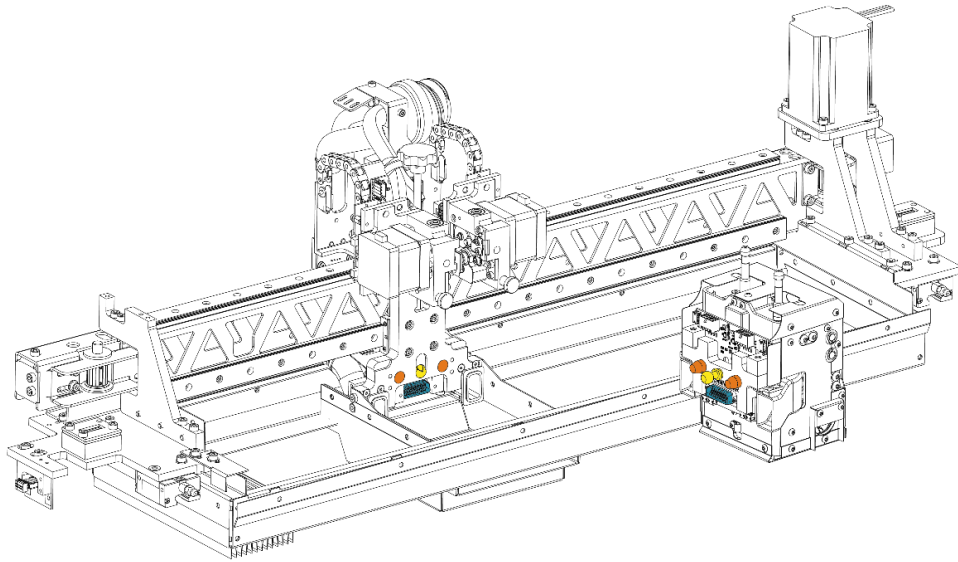
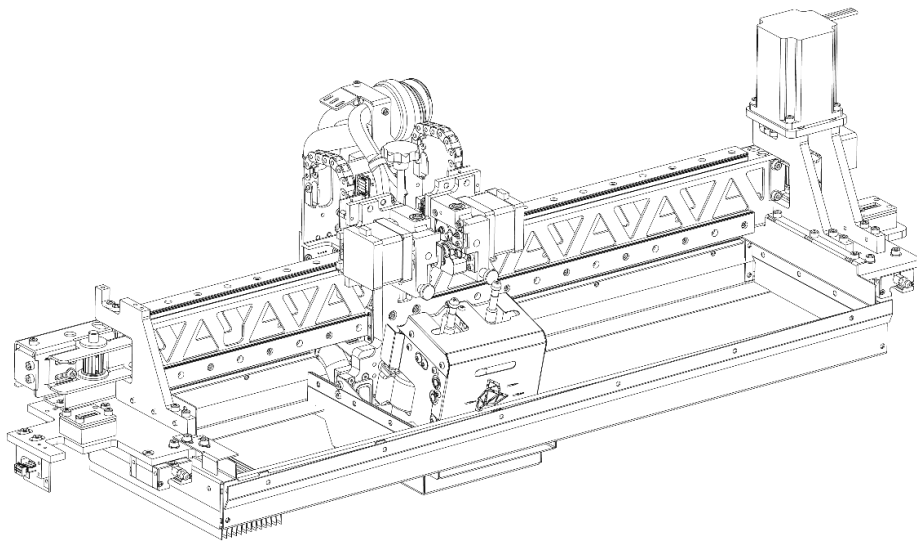
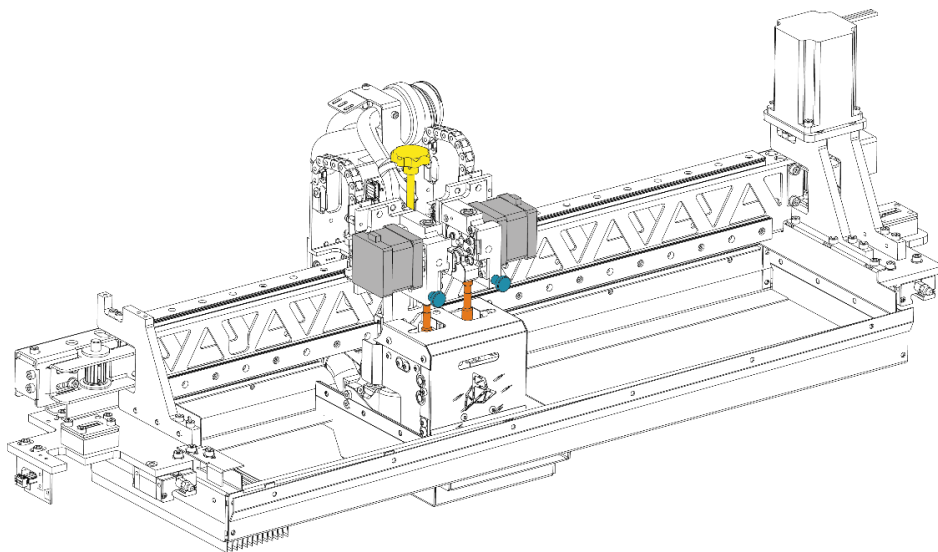
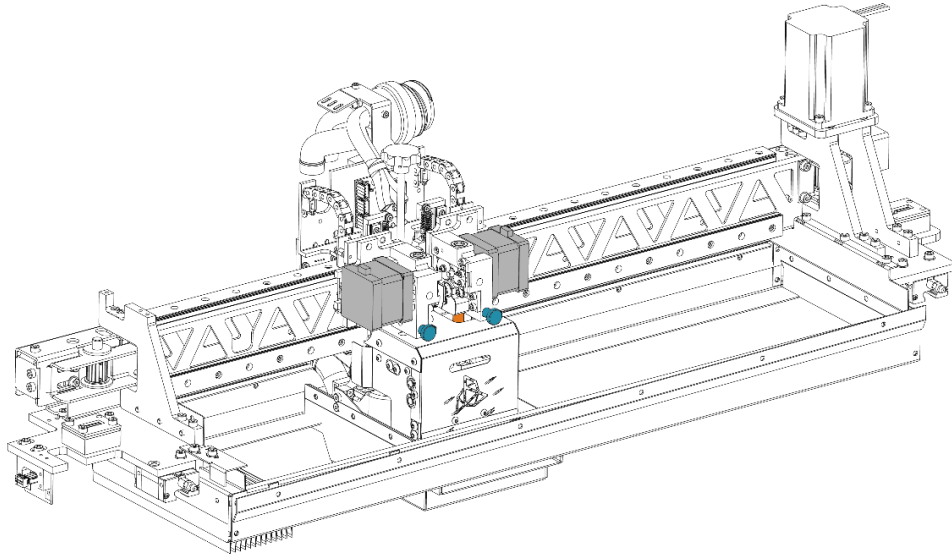

Fig. 69 Printing module installation
Fig. 70 Printing module installation
Fig. 71 Printing module installation
Fig. 72 Printing module installation
7. Insert the module at an angle into the module working space (Fig. 70). Straighten the module so that the ball pin (Fig. 69, yellow) enters its slot in the mounting plate (Fig. 69, yellow). Gently press the module against the mounting plate so that the two positioning pins (Fig. 69, orange) and the signal socket (Fig. 69, blue) are inserted into the mounting plate. Be careful not to scratch the front housing of the module during installation.
8. Tighten the knob above the module (Fig. 71, yellow). The knob should be tightened as far as it will go to compensate for any play.
9. Press and hold the T0 extruder locking mechanism (Fig. 71, blue), then lower and release the T0 extruder (Fig. 71, grey). Check that the extruder is locked on the hotend sleeve (Fig. 71, orange) by pushing lightly it upwards. When the extruder is locked properly, it will stay in the lower position (Fig. 72, grey).
10. Press and hold the T0 extruder locking mechanism (Fig. 69, blue), then lower and release the T0 extruder (Fig. 72, grey). Check that the extruder is locked on the hotend sleeve (Fig. 71, orange) by pushing lightly it upwards. When the extruder is locked properly, it will stay in the lower position (Fig. 72, grey).
7. Unlock the T0 extruder from the hotend sleeve by pressing the T0 extruder locking mechanism (Fig. 70, blue). The unlocked extruder will be set to a higher position (Fig. 71, grey).
8. Unlock the T1 extruder from the hotend sleeve by pressing the T1 extruder locking mechanism (Fig. 70, blue). The unlocked extruder will be set to a higher position (Fig. 71, grey).
9. Unscrew the knob above the module until it is possible to pull the module socket out of the mounting plate (Fig. 71, yellow).